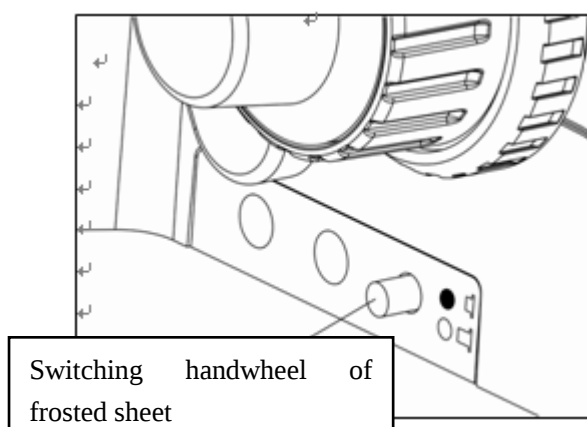

Fig 13
3-11Using Frosted Sheet(figure 13)
As shown in figure 13, the state of using filter is that push in the rod. When push out the rod, filter is in an empty state. LBD is a filter of increasing color temperature. ND25 is a filter of 25% light transmittance. ND6 is a filter of 6% light transmittance.
As shown in fig13, converter reserves a slot to hold the extensional function board. The ordinary light field board has been inset the slot before The lens of microscope leaving factory. If using other extensional function board, only need to tear down and loosen ②, pull out the standard light field board, then inset the extensional function board into the slot and freeze the bolt of ②.